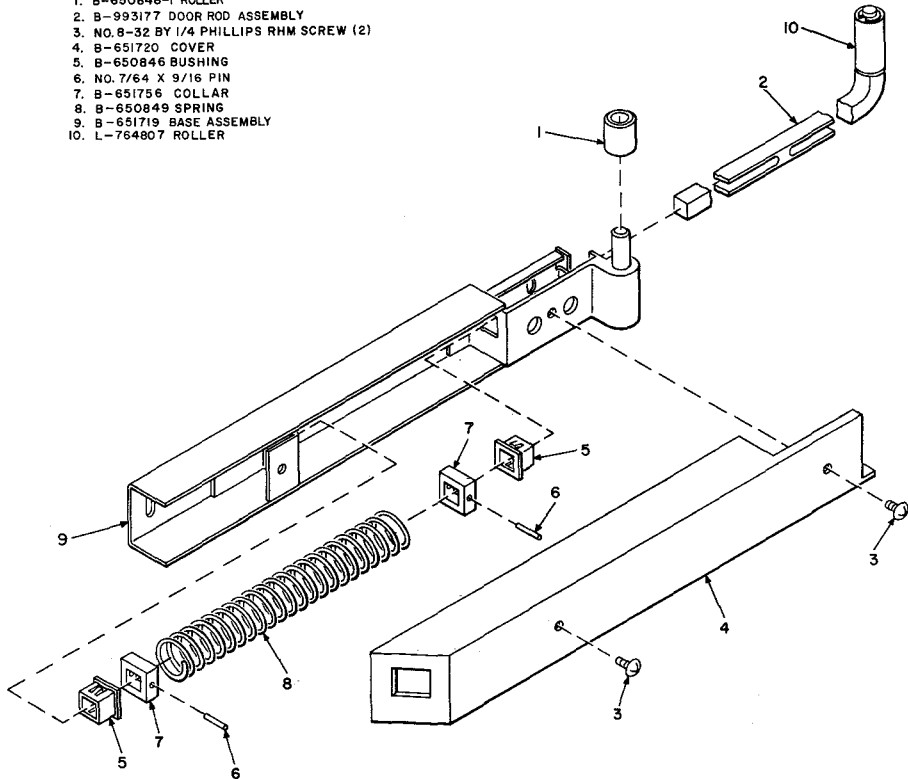

Fig. 28—B-993172-2 Door Guide Assembly
- 4.32 The KS-19580 booth will have either a B-651721-2 short-roller door guide assembly (Fig. 27) or a B-993172-2 long-roller door guide assembly (Fig. 28).